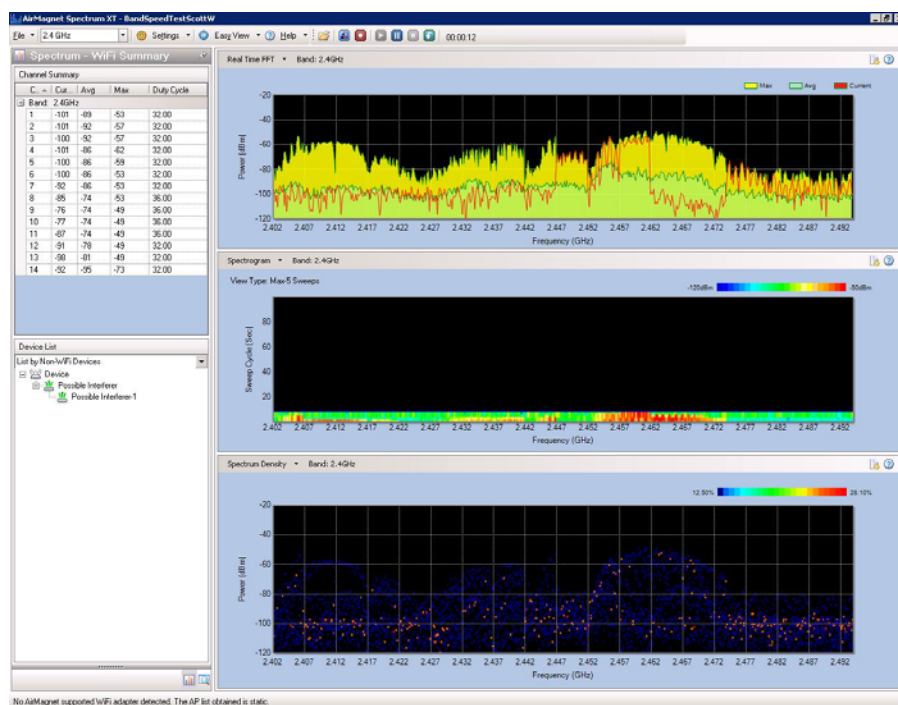

Figure 15-59: AirMagnet Remote Spectrum Analyzer screen
- 2) Click the AirMagnet Remote Spectrum Analyzer window and then select one of the screen options by clicking the corresponding tab across the top of the right-hand side of the screen. Spectrum data appear on the screen. See Figure 15-59.